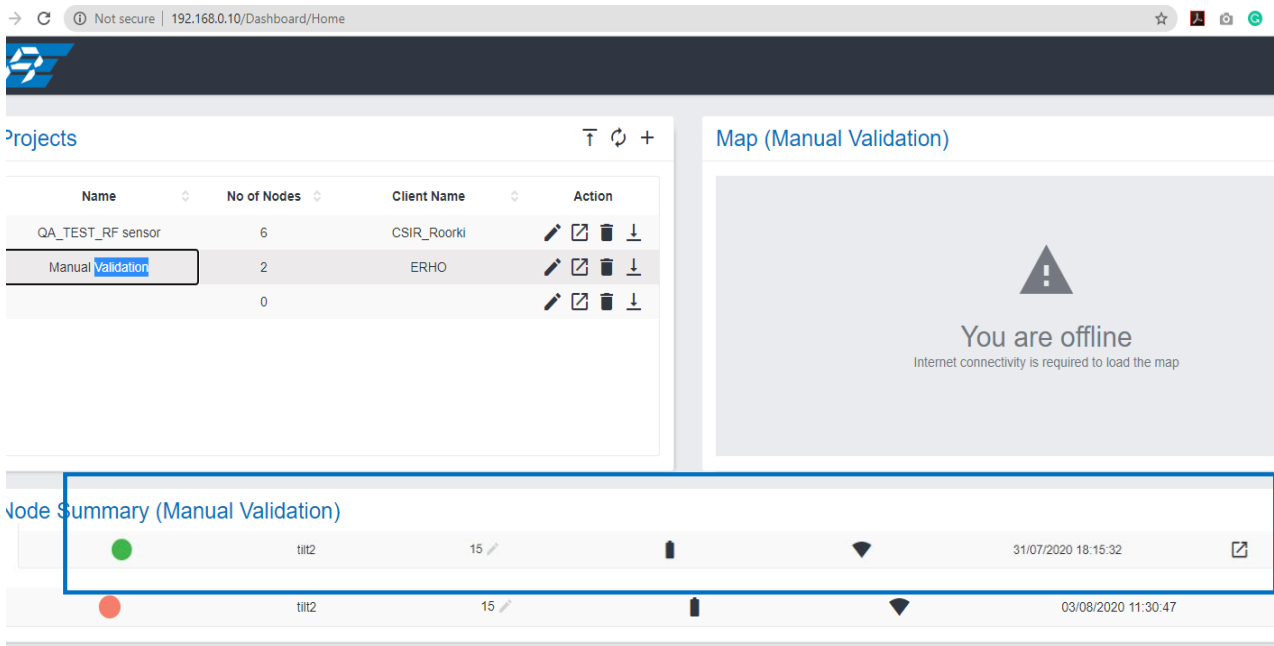

Figure 3-23
- 9. Double click on the selected 'Project name'. It will show the Node Summary like Node Status, Node name, Sampling Rate, Battery Status, RSSI, Last Updated. (Refer to figure 3-23)